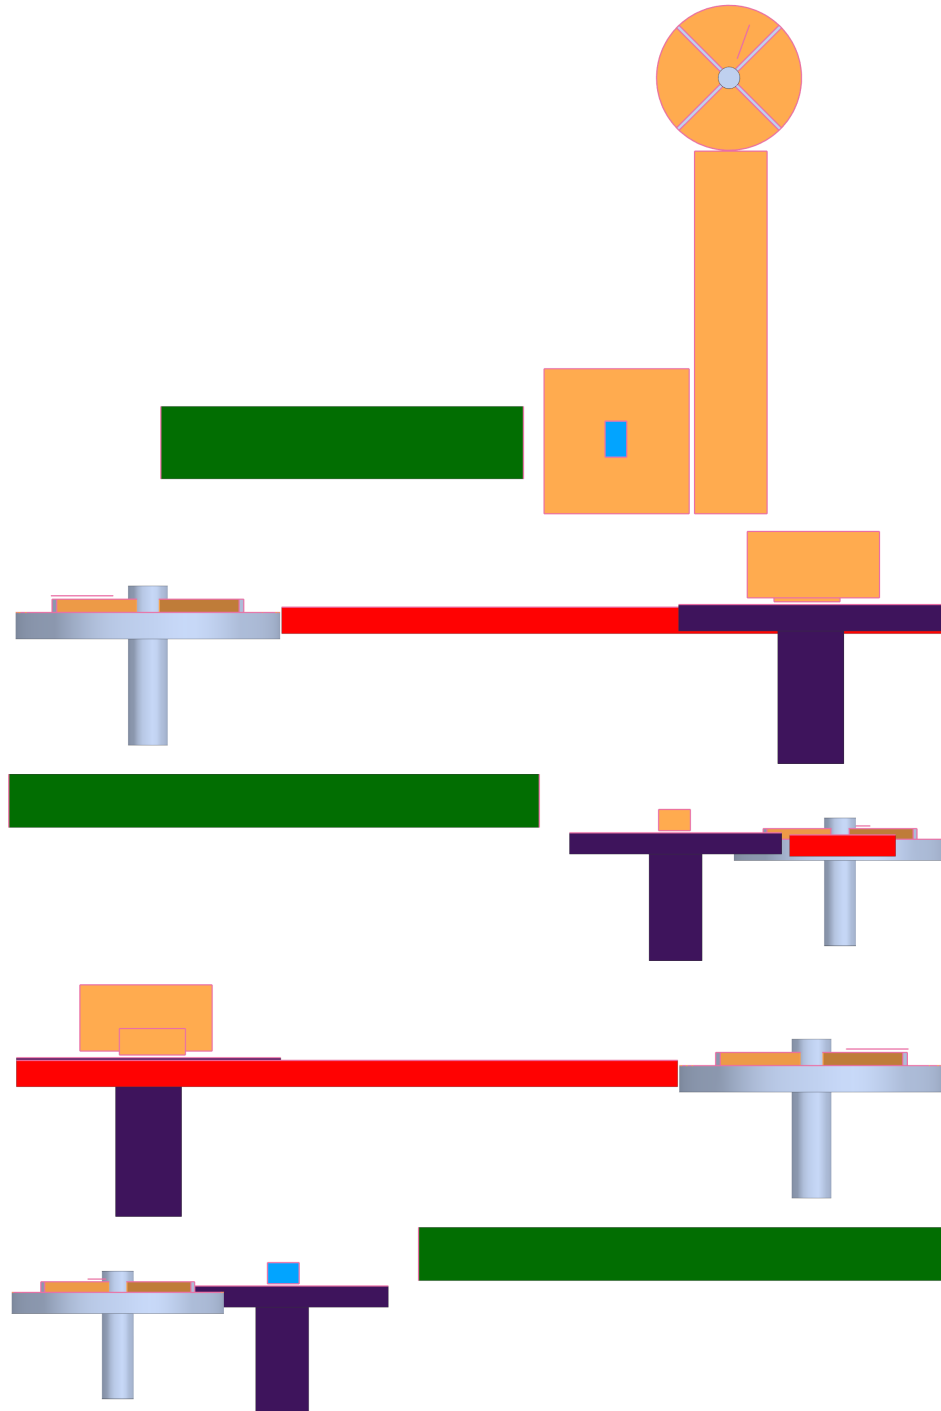

Figure 5: Faces used for the collision bodies, in order: top view, rear view, right view, front view, left view
3. In this assembly 5 rigid bodies and 11 collision bodies are defined, the used faces for the collision bodies are highlighted in orange in figure 5. You should be able to define them yourself with what was explained earlier.